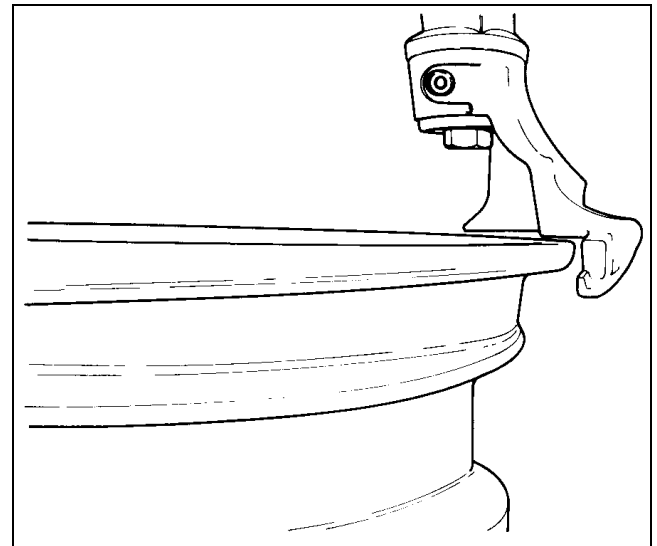

Fig. 14
E. Position the mount/demount head in contact with rim edge and lock it into place: the tool automatically moves away from the rim edge vertically. Turn the adjustment knob until the mount/demount head clears from the rim flange about 1/16" (2mm): this is necessary to avoid any rim damage (Fig. 14).